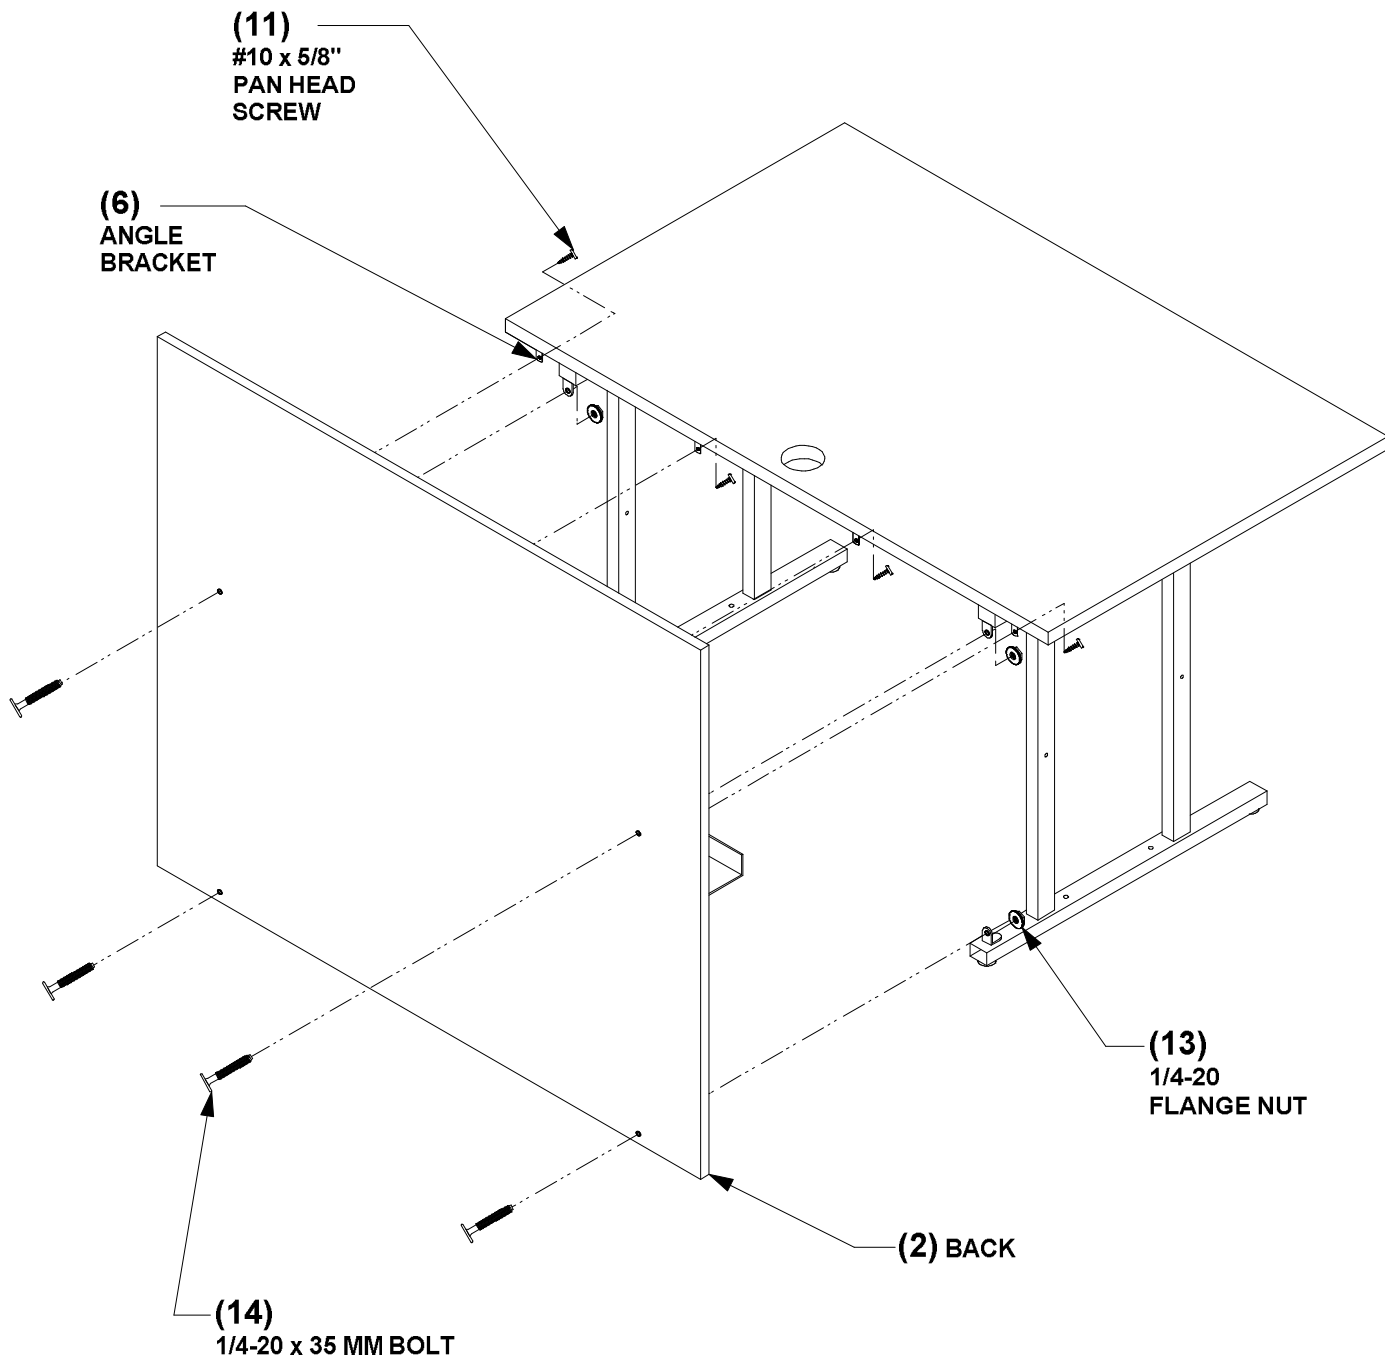

FIGURE 3
5. Attach back (2) to table using 1/4-20 x 35 mm bolts (14) and 1/4-20 flange lock nuts (13). See figure 3.
6. Attach angle brackets (6) to back (2) using #10 x 5/8" pan head screws (11).